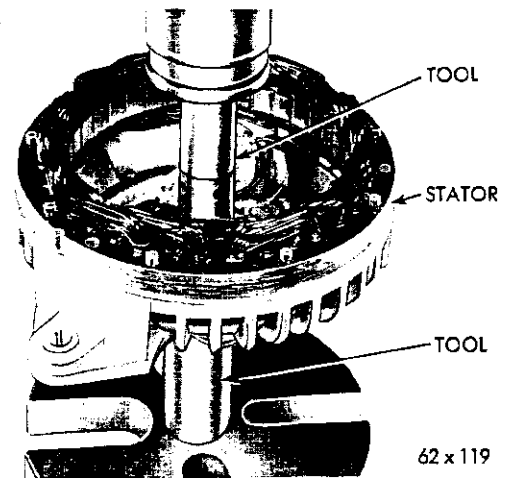

Fig. 59—Removing the Rectifier End Shield Bearing
(10) The needle roller bearing in the rectifier end shield is a press fit. If it is necessary to remove the rectifier end frame needle bearing, protect the end shield by supporting the shield with Tool SP-3383 when pressing the bearing out with Tool C-3770 (Fig. 59).